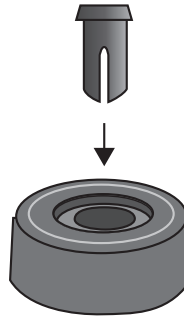

Figure 30. Inserting the Rivet Housing into the Bumper Foot
2. Insert a rivet housing into a bumper foot. Refer to Figure 30.